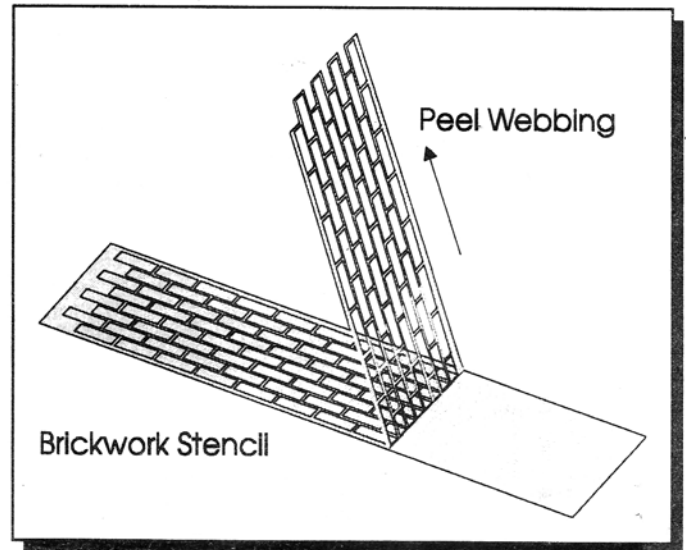

Figure 8
3. Peel the Webbing from the Brickwork Pattern Stencil Tape as in Figure 8. Stick stencil to Base Walls and Front Step Risers leaving enough overhang to hold on to for removal. Press firmly for full contact.